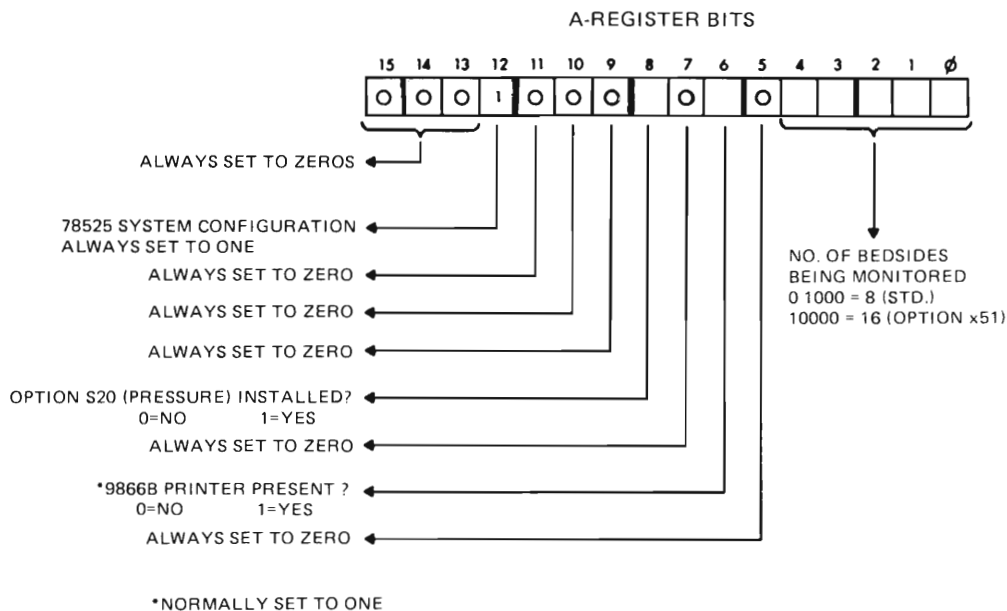

Figure 3-2. A-Register Configuration Parameters
- j. Select the A-, B-, and S-Register displays and verify that each register is storing the proper system configuration bits as shown in Figures 3-2 through 3-4. If not, enter and STORE the appropriate data in the registers.